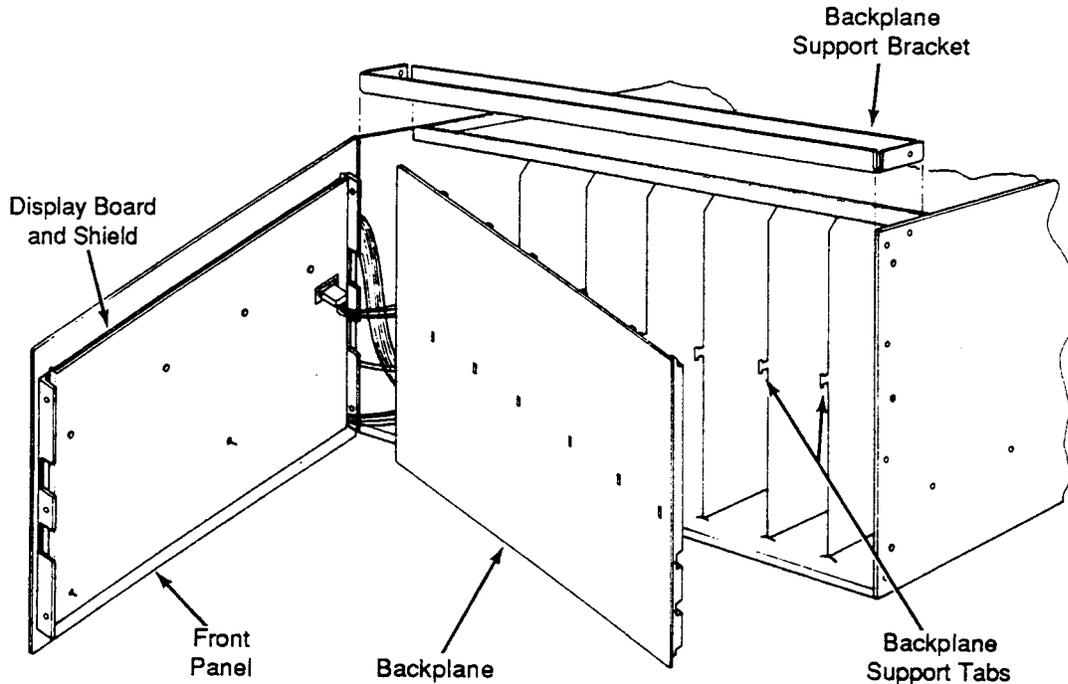

Figure 7-6
- E. Swing the front panel to the left and rest it on its edge as shown in Figure 7-6.
- A. Remove the backplane support bracket shown in Figure 7-6.